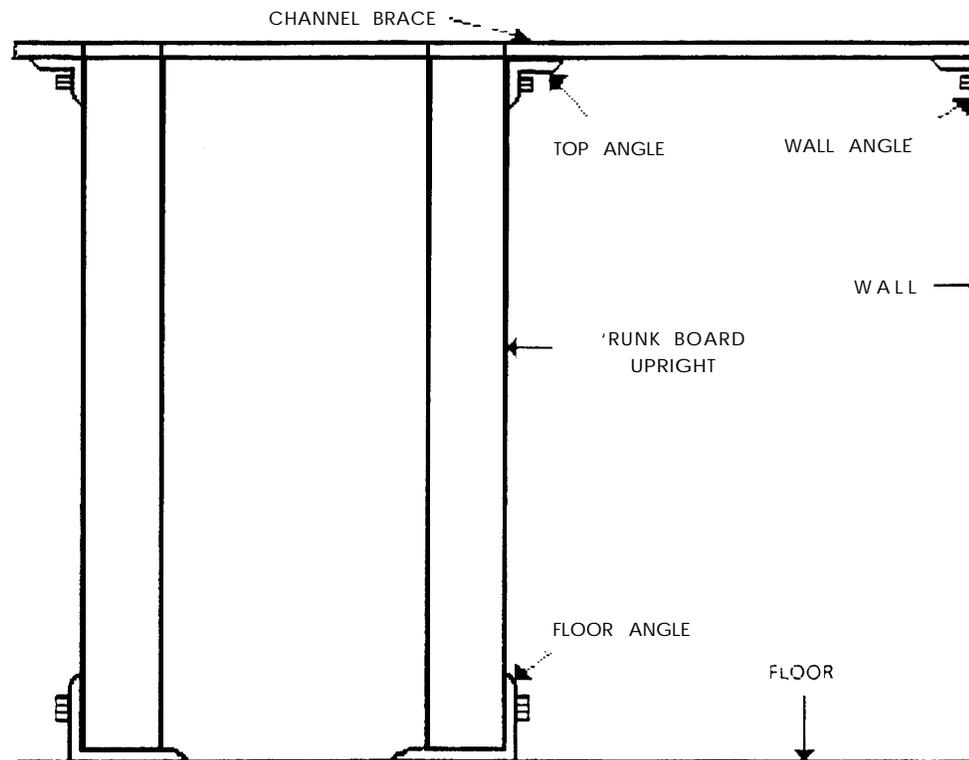

Figure 22. Supporting Uprights and Top Angle With Channel Brace and Wall Angle.
8.02 If temporary support is required when erecting trunkboards, short pieces of channel may be used. Support uprights and the top angle as required with pieces of channel attached to the wall angle (Figure 21). For permanent bracing, use preinstalled channel (Figure 22).